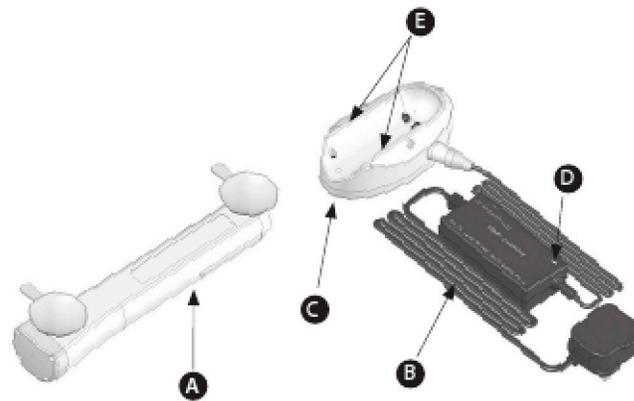

fig 2
- A battery (see fig 2)
- A battery charger with charging cradle attached (see fig 2)
1. Slide the battery into the tracks on the charging cradle until it clicks into place (see fig 2 on previous page).
3. The battery charger light indicator will initially flash in a quick sequence of red, green, red, green, before a constant red light appears to indicate charging is in progress (see fig 2 on previous page).